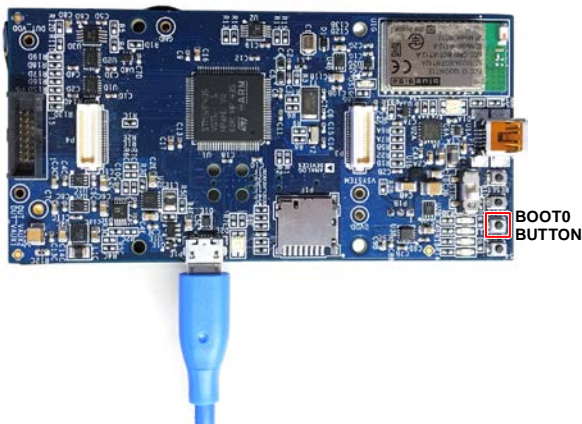

Figure 6. Micro USB Connection and BOOT0 Button Used When Upgrading Firmware
2. Plug in a micro USB cable between the EVAL-ADPDUCZ and the PC with the power to the EVAL-ADPDUCZ turned off (see Figure 6).